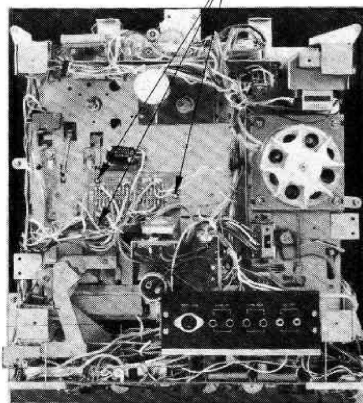

Fig. 24
- 2) Head changing-over circuit board: Remove three screws shown in Fig. 24.